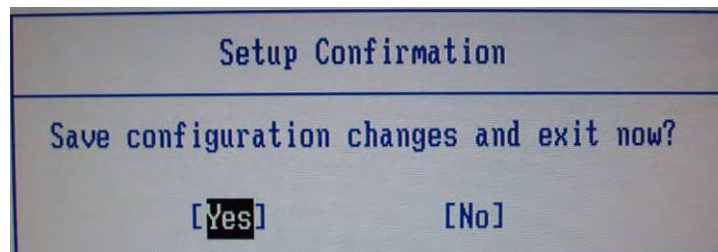

Figure 1-99. BIOS Save Setup
8. Press **F10** to save and exit the BIOS. The "Setup Confirmation" popup window displays the wording, "Save configuration changes and exit now?" (Figure 1-99). The "[Yes]" option should be highlighted.